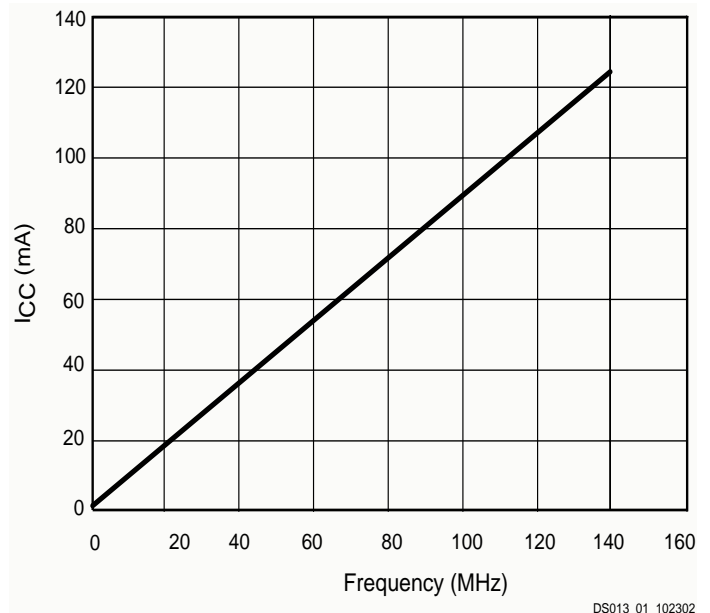

Figure 1: XCR3256XL Typical I_{CC} vs. Frequency at $V_{CC} = 3.3V, 25^{\circ}C$
Xilinx offers a TotalCMOS CPLD, both in process technology and design technique. Xilinx employs a cascade of CMOS gates to implement its sum of products instead of the traditional sense amp approach. This CMOS gate implementation allows Xilinx to offer CPLDs that are both high performance and low power, breaking the paradigm that to have low power, you must have low performance. Refer to Figure 1 and Table 1 showing the I_{CC} vs. Frequency of our XCR3256XL TotalCMOS CPLD (data taken with 16 resettable up/down, 16-bit counters at 3.3V, 25°C).
4. See Table 1, Figure 1 for typical values.